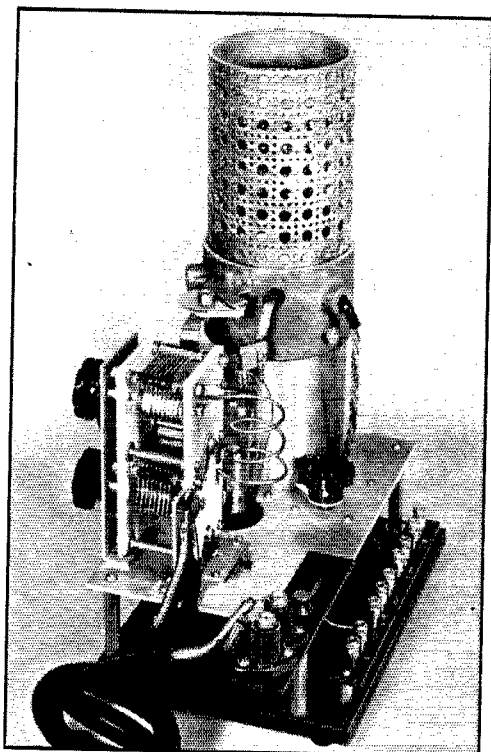

Fig. 10 — This view of the 5-meter transmitter shows more clearly the transmission line arrangement for producing the balanced output.
- L₅ — Amplifier plate coil, three turns No. 12, as shown in Fig. 10.
In the schematic diagram of Fig. 5 most of the by-pass condensers are represented by a short line directly above and parallel to the ground plane. This representation is used to indicate that each of these condensers is formed by clamping thin mica sheets between a metal plate or a wide copper strip and the grounded metal chassis. The copper strip is held with the aid of a top metal ground plate that fastens to the chassis and is insulated from the copper strip by mica. One of these condensers is shown clearly in Fig. 10. It can be seen in back of and connected to the lower amplifier tuning condenser. These built-up condensers are only of value if they are placed at the point that needs by-passing and if short wide strips are used for their connections.